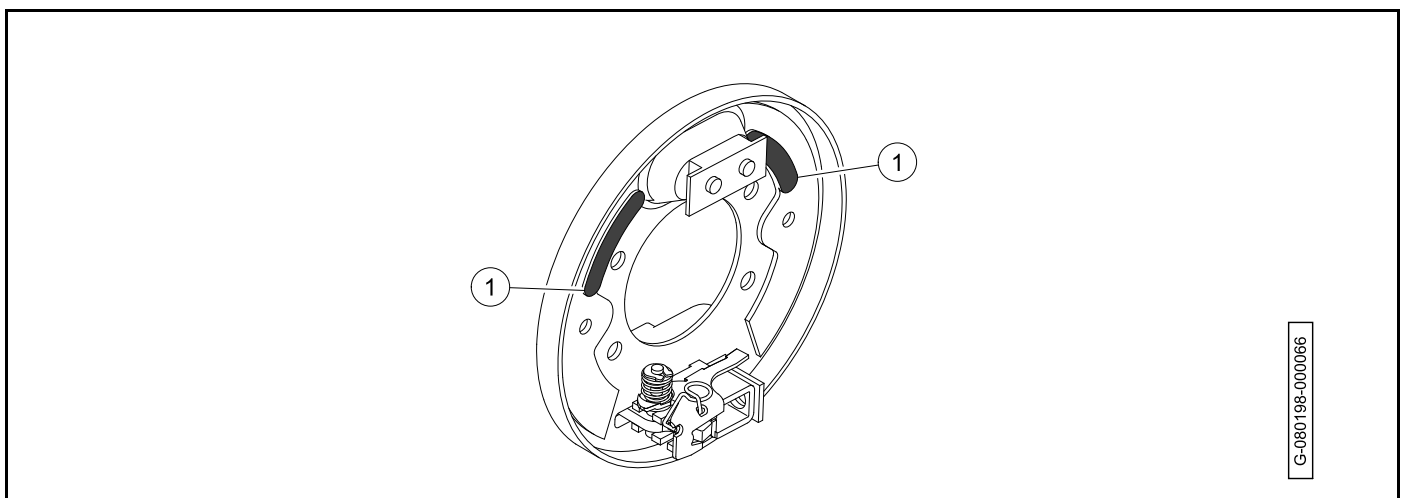

Figure 6-8
6. Use a small brush to carefully apply a light coat of white lithium NLGI #2 grease (Dow Corning® BR2-Plus or equivalent) on the raised bosses (1) on the brake backing plate (**Figure 6-8**).